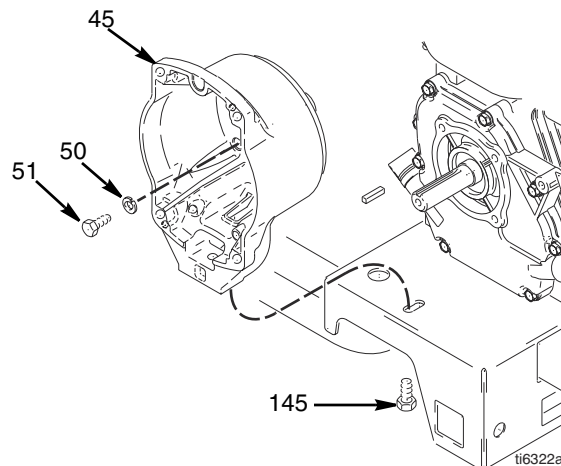

FIG. 11
3. FIG. 11. Disconnect clutch (+) and clutch (–) connectors from wire harness located under sprayer cart.
2. FIG. 11. Remove four screws (51) and lock washers (50) which hold clutch housing (45) to engine.
3. Remove screw (145) from under mounting plate.
4. Pull off clutch housing (45).
1. FIG. 11. Push on clutch housing (45).
2. Install four capscrews (51) and lock washers (56) and secure clutch housing (45) to engine. Torque to 200 in-lb (22.6 N·m).
3. Install screw (145) from beneath mounting plate. Torque to 26 ft-lb (35.2 N·m).